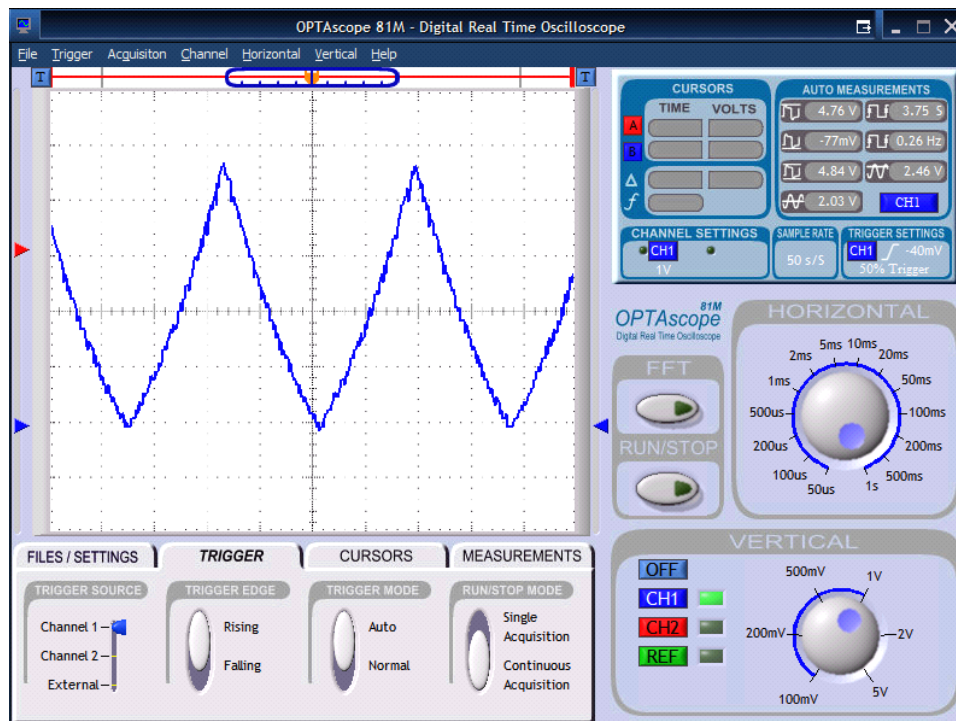

Figure 14-3: Triangle Wave
4. Look at the triangle waveform in Figure 14-3. Can you simulate this with PWM? Write a program to generate this waveform. You can observe your results with an LED, or even better an oscilloscope, if available. Hint: The exact timing or voltage levels are not important.